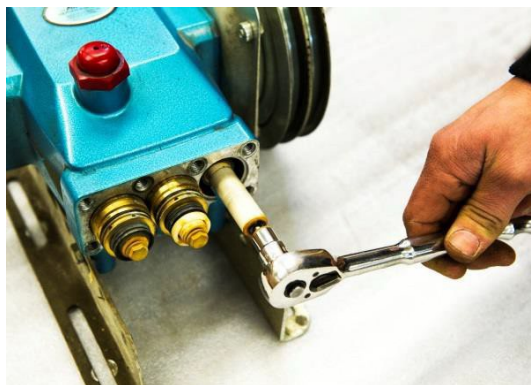

Figure 18: Removing plunger
1. Using a 10-mm socket, remove the ceramic plunger and plunger retainer from the piston rod (see Figure 18).